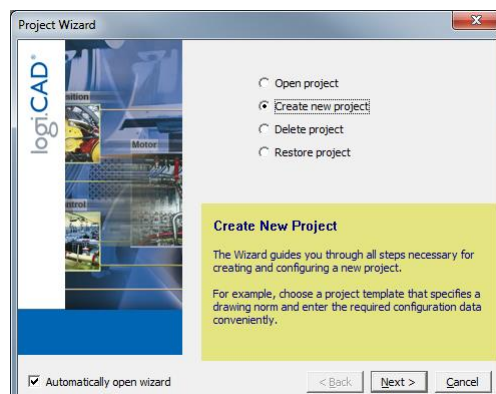

Figure 18: logiCAD project wizard
- The project wizard starts automatically as shown in Figure 18.